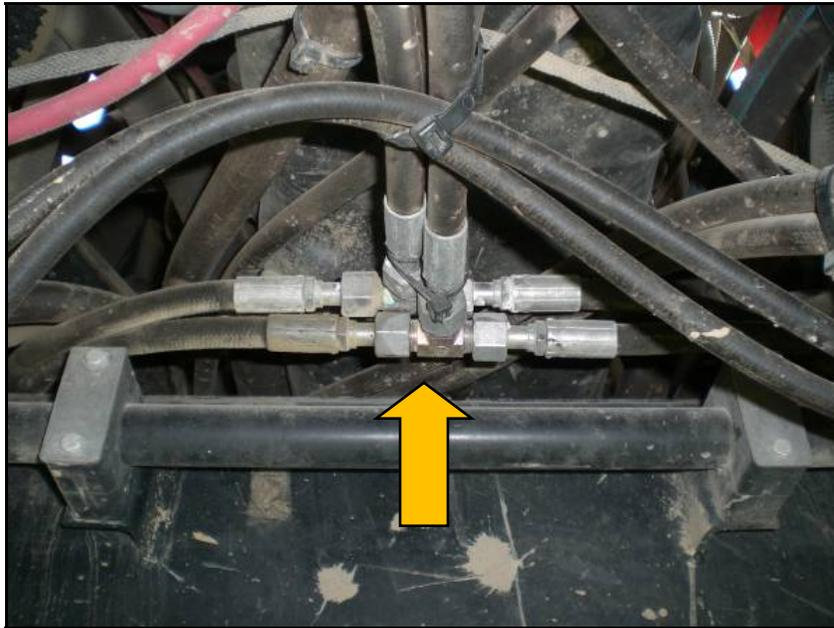

Figure 25: Case Main Lift Tee Location
2. Connect four (4) 6MOR-6FORX90 fittings (F07) to the “A” and “B” ports on the NORAC valve block. Attach four 6FORXR-6MORT tee fittings (F03) onto the F07 fittings on the NORAC block.
8. Install four (4) hoses (H01) between the tee fittings (F03) and the Case valve block. Use four 6MB-6MOR adapters (F05) to connect the hoses to the Case valve block.
11. Attach the straight fittings on hoses H05 to the “A” and “B” ports on the 3rd station of the block. Route the free end of the hoses (H05) to the Case main lift tee, which is located near the sprayer axle (**Figure 25**).